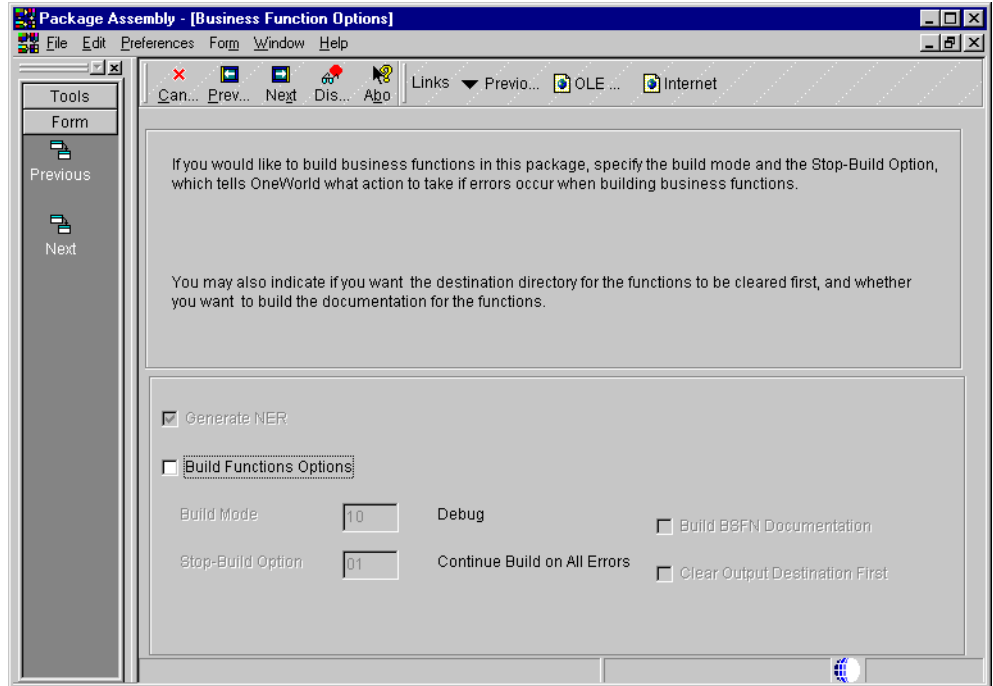

Figure 156. Business Function Options form
8. Click **Next**. The Business Function Options form appears (Figure 156 on page 358).